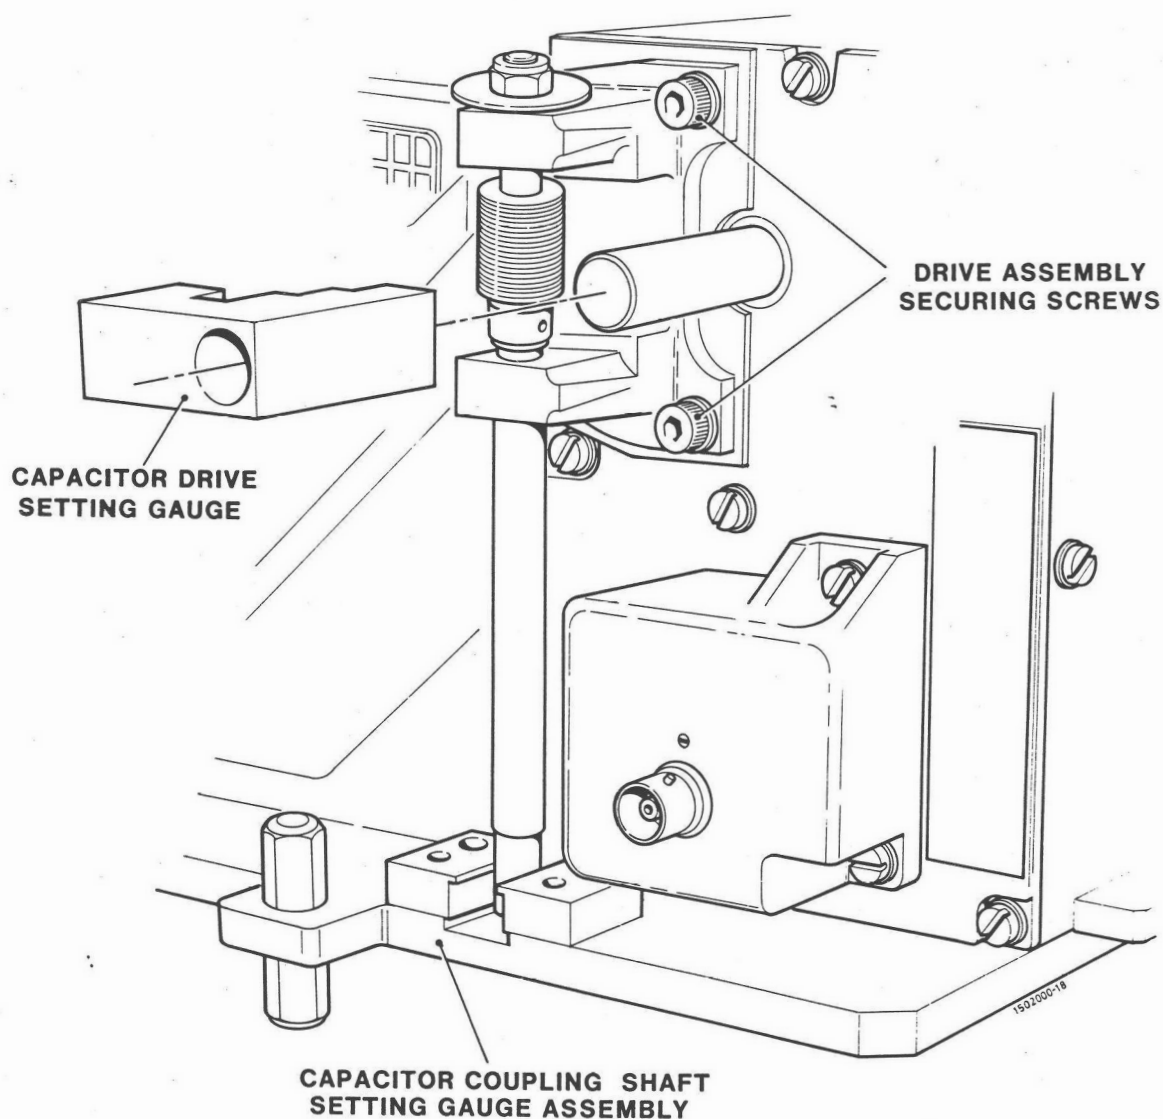

Fig 5 Capacitor drive shaft alignment
389.1 Referring to Fig 5, locate the transmitter (4) on the alignment jig (part of Test kit).